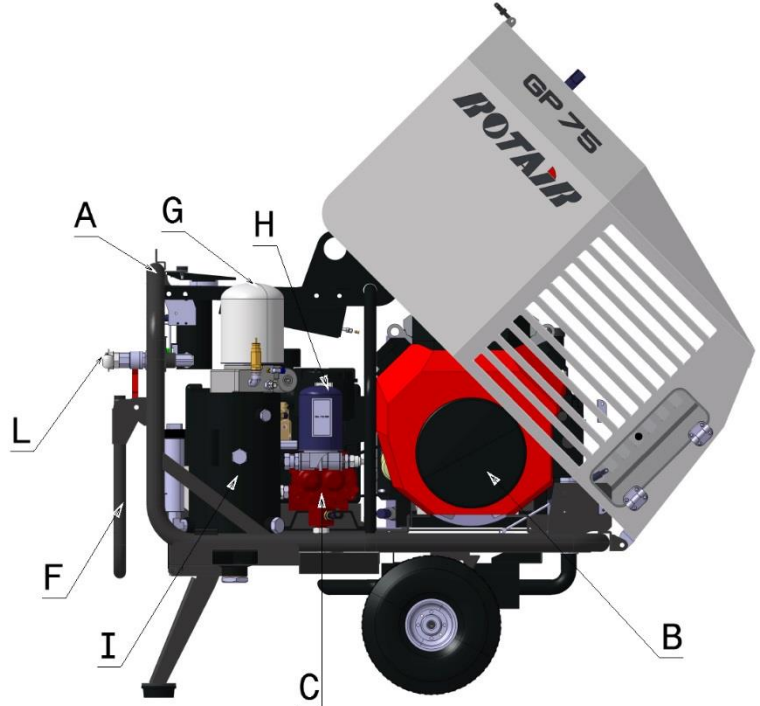

Figure 7-1
7.1 Chassis and tow-bar – Figure 7-1 Part. A and F
7.2 Engine - Figure 7-1 Part.B
7.3 Compression unit and oil separator tank - Figure 7-1 Part.C and I